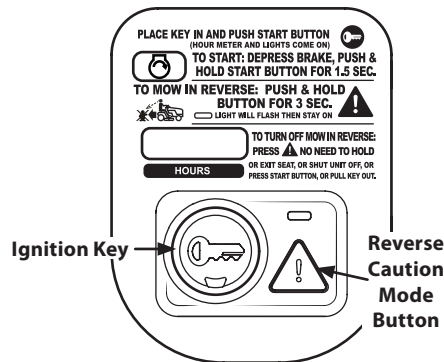

Figure 3-3
2. Press the REVERSE CAUTION MODE  button and hold for 3 seconds. The indicator light will flash for 3 seconds and will stay on when the REVERSE CAUTION MODE  is activated. See Figure 3-3.
3. The indicator light above the REVERSE CAUTION MODE  button will be ON while activated. See Figure 3-3.